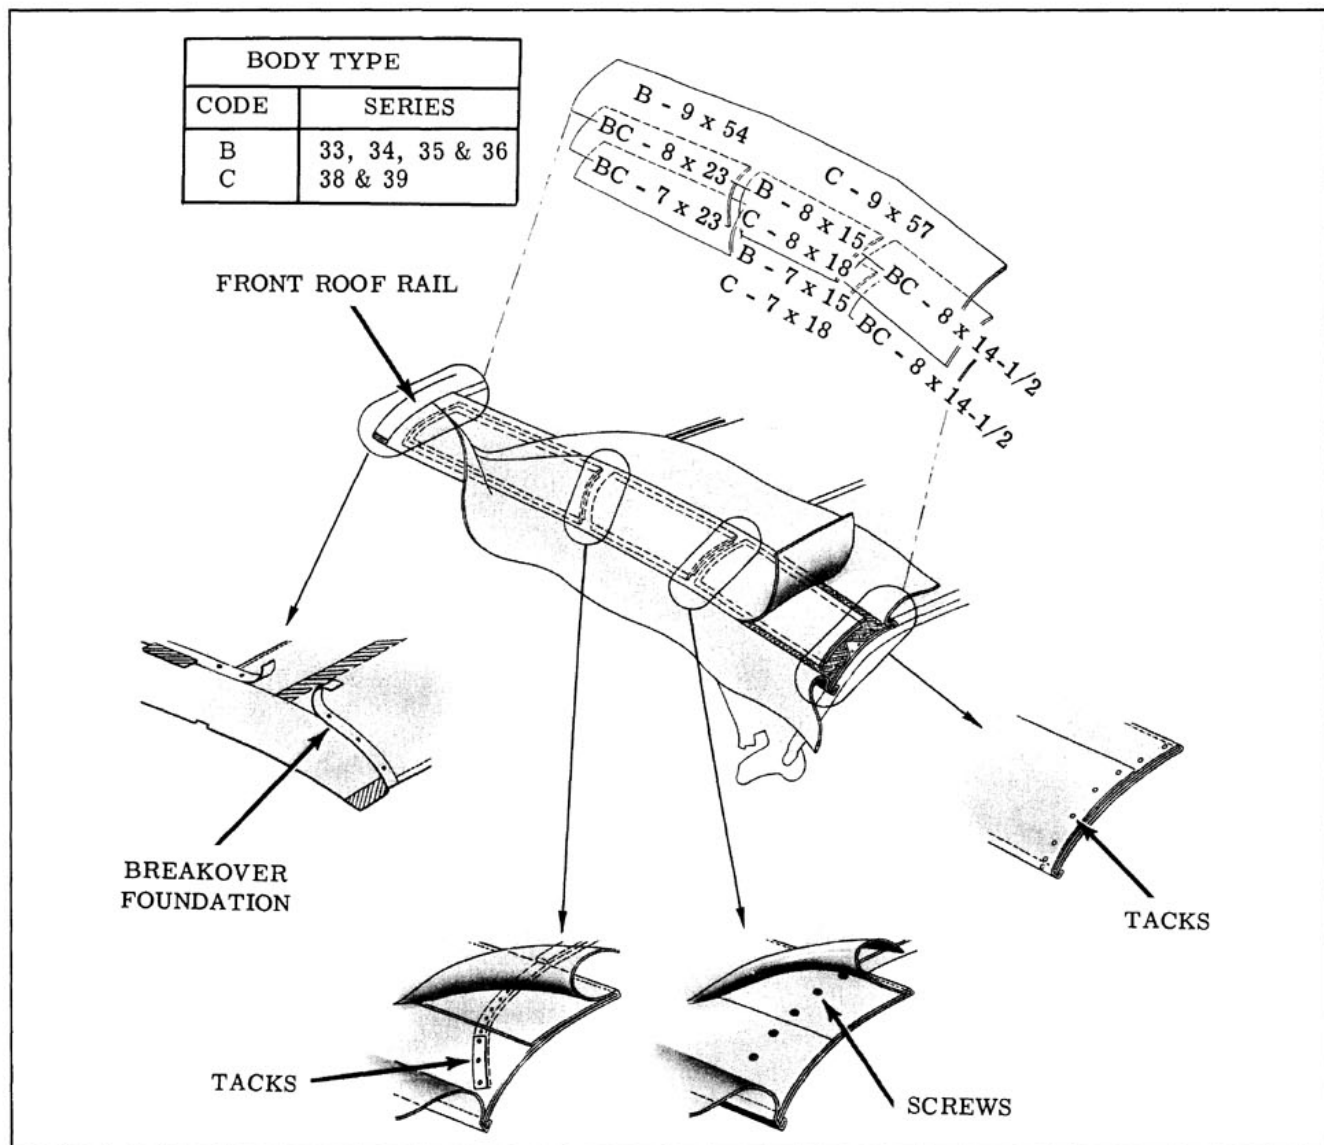

Fig. 16-134 Tacking Stay Pads
2. Tack side stay pads in conventional manner to rear roof bow and stay tack pads to front roof rail. Make sure inboard edge of pad is properly aligned within depressions in bow and rail. Stay tack pad to front bow. Inboard edge of pad should be located within $1/4"$ of outboard edge of front bow felt silencer. Install pad to center bow with screws. Make sure inboard edge of pad is properly aligned within depression in bow. Install stay pad wadding using trim cement. (Fig. 16-134)